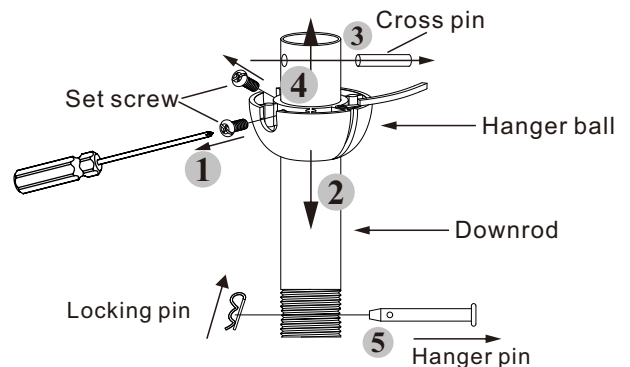

Figure 13
b. Remove the hanger pin, locking pin from the downrod assembly, and loosen the set screws from the the coupling (Fig. 13)